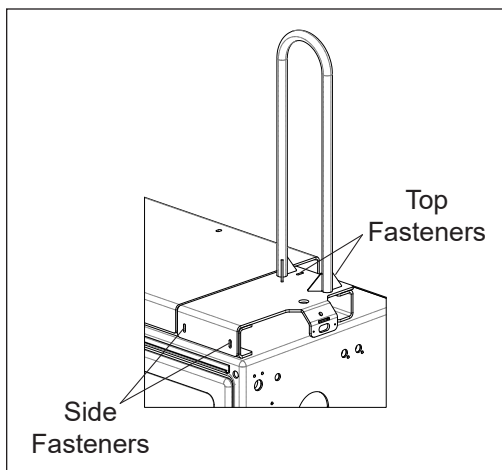
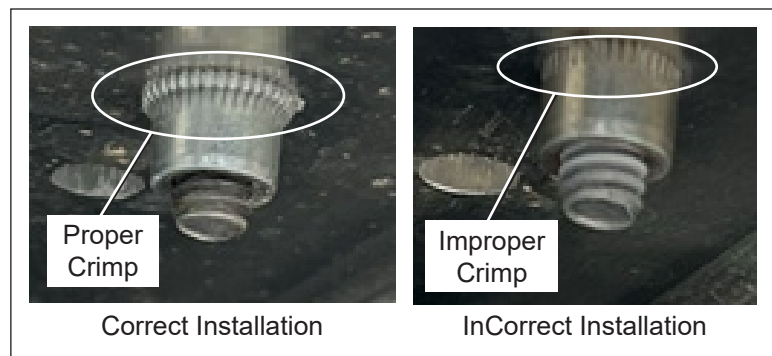

Figure 2 — Grab Handle Mounting Hardware
Figure 3 — Installed Rivet Nuts
4. The grab handle assembly is mounted to the street side sidepack using four rivet nuts and fasteners (refer to Figure 2). Visually inspect the rivet nuts. Compare the crimping on the rivet nuts to the configurations shown in Figure 3. A properly installed rivet nut should be uniformly crimped around the base material, exhibit no signs of deformation, gaps, or misalignment, and be securely seated with no movement when gently handled.